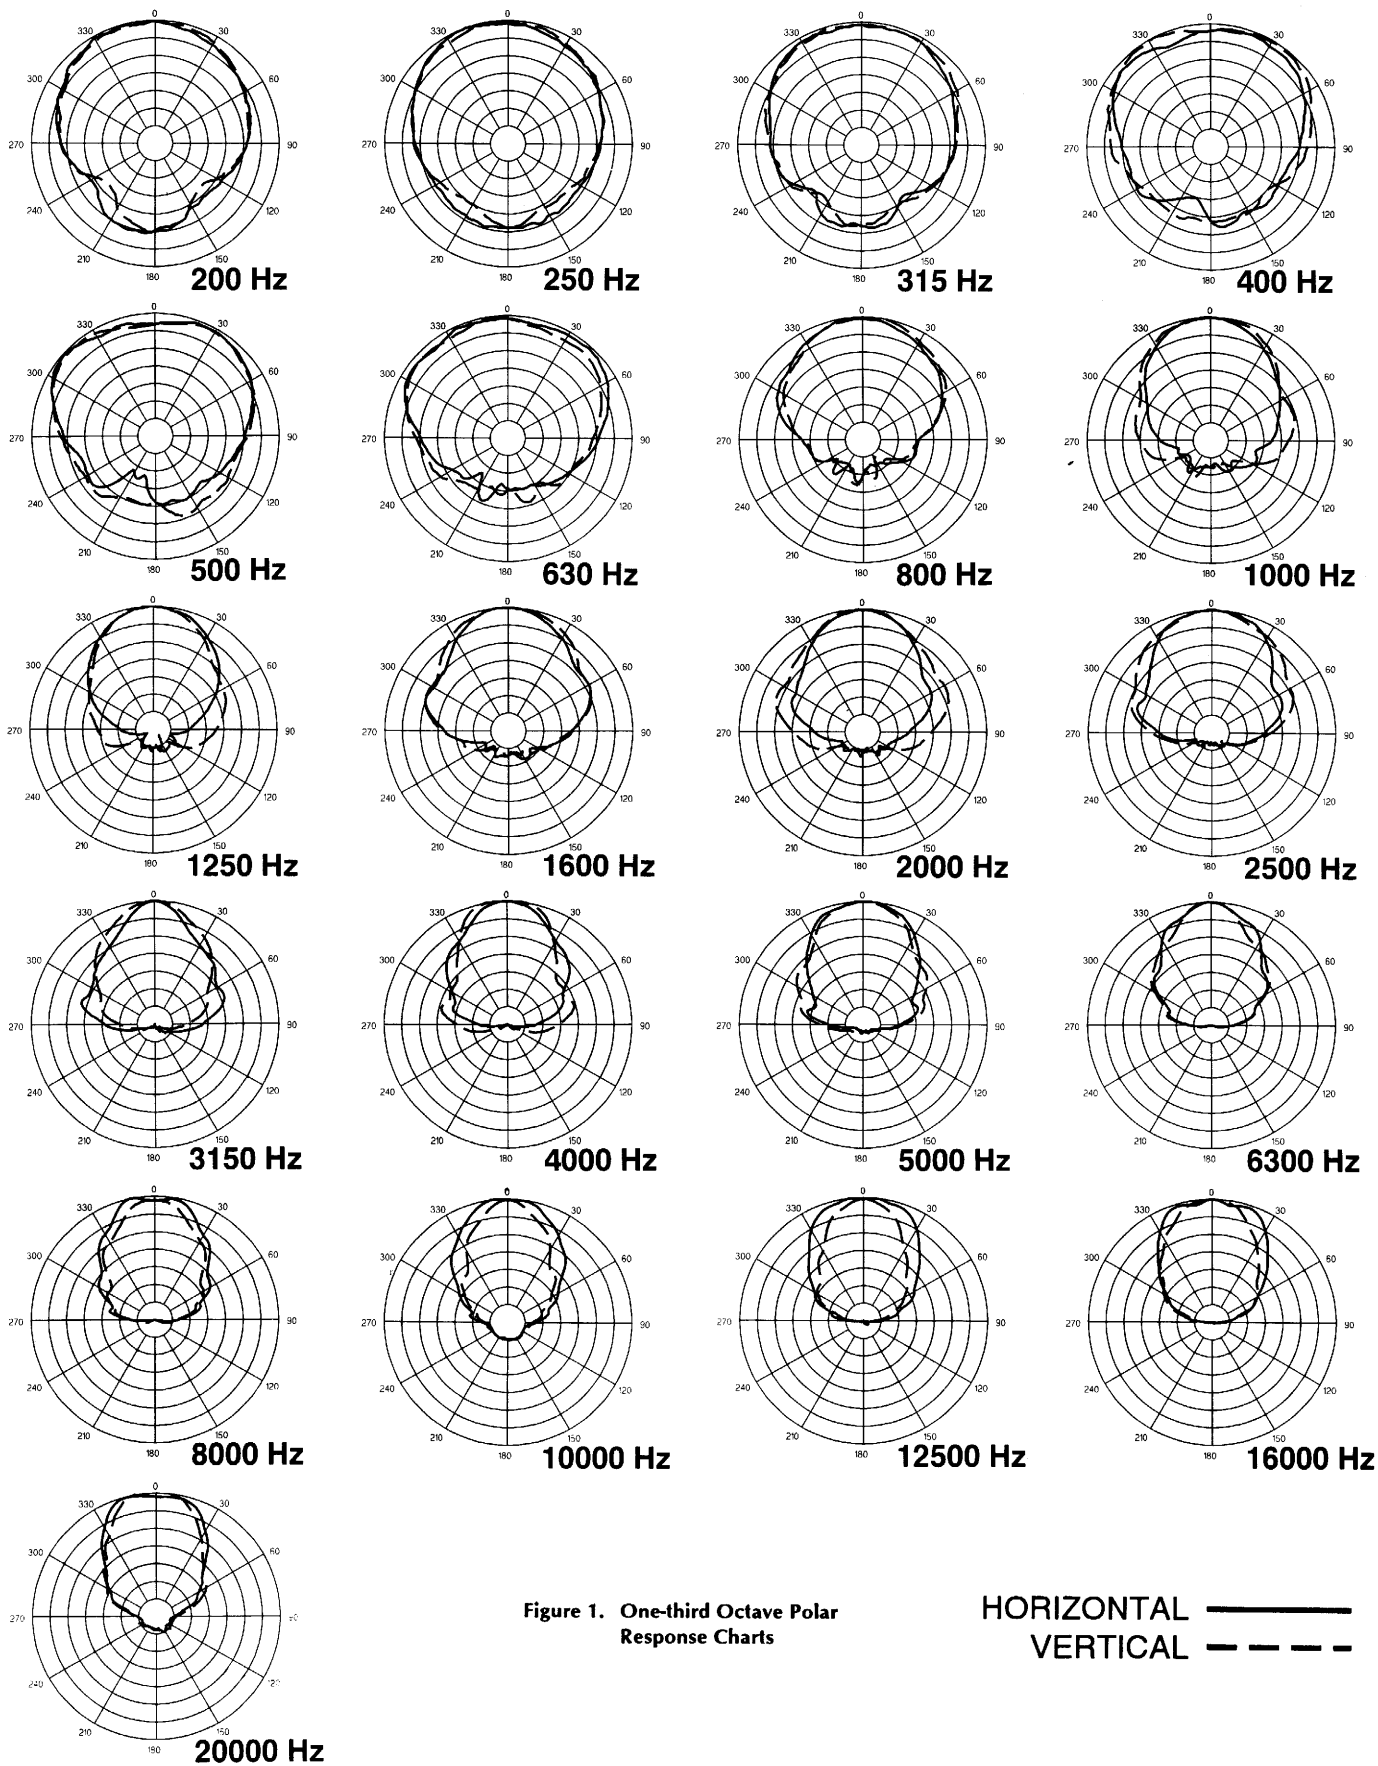

Figure 1. One-third Octave Polar Response Charts
- Frequency Response:** 60 Hz - 20 kHz (see Figure 1, Note 2)